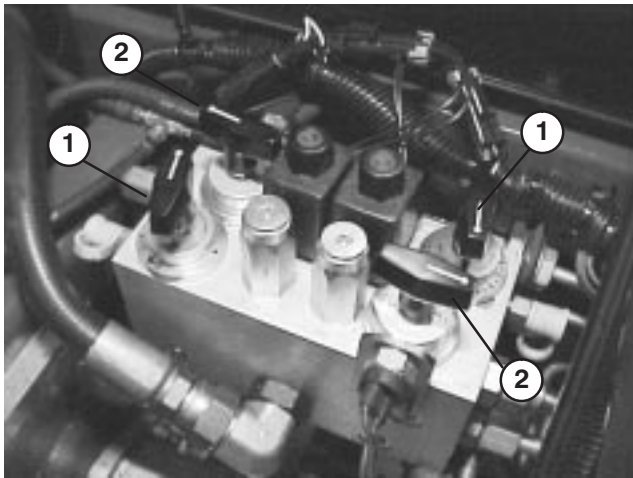

Figure 64
3. Locate the reel speed selector knobs and backlap knobs (Fig. 64). Rotate the desired backlap knob(s) to the backlap position and the desired reel speed selector knob(s) to position “1.”